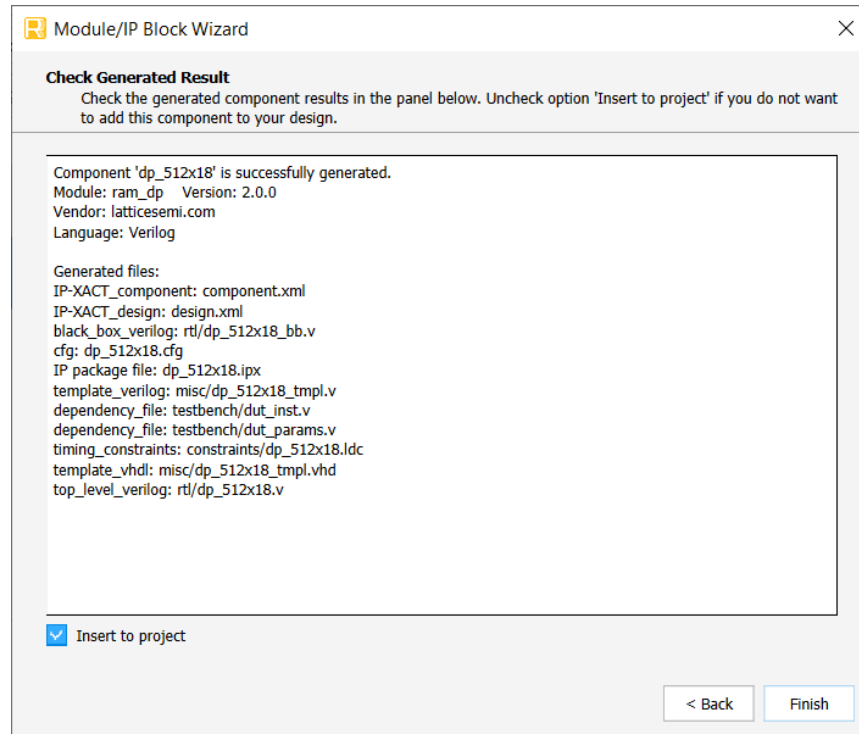

Figure 3.4. Example: Generating Distributed_DPRAM Check Generated Result
4. When all the options are set, click **Generate**. The **Check Generated Result** dialog box opens, showing design block messages and results as shown in Figure 3.4.